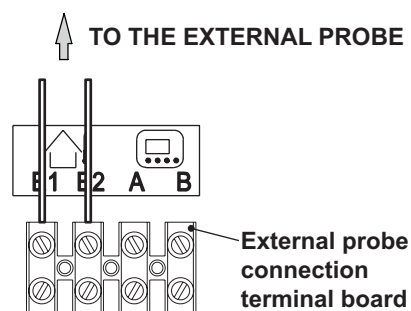

Figure 12.12
- Connect the two electric wires to terminals **E1** and **E2** on the terminal board as shown in Figure 12.12.